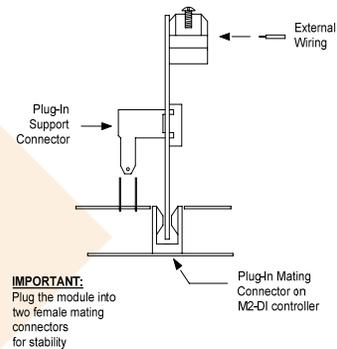

Figure 2
1. Plug in the M2-CDI module into the controller socket making sure the plug-in support connector is properly seated into the female spade support terminal. Figure 2.